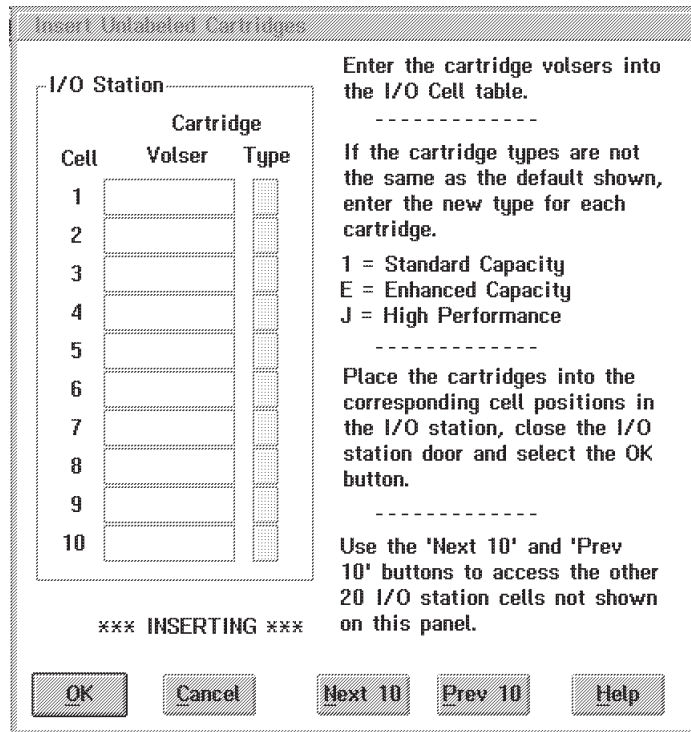

Figure 117. Insert Unlabeled Cartridges Window
2. Enter the volsers and the cartridge type of all the cartridges to be inserted in the spaces on the Insert Unlabeled Cartridges pop-up window. Figure 117 on page 185 shows the Insert Unlabeled Cartridges pop-up window.
The Insert Unlabeled Cartridge function can be used to insert empty stacked volumes for a VTS. To be successful, the volser must fall into a stacked volume volser range (see Figure 117 on page 185) and the media type must be a "J". However, it is recommended that the Insert Unlabeled cartridge function **NOT** be used for stacked volumes in normal operations. It should only be used for re-inserting volumes that have a damaged external label.